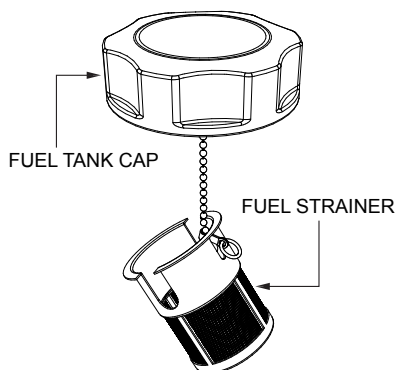

Figure 33. Fuel Strainer
3. Next, remove, inspect and clean the fuel strainer (Figure 33) with solvent.